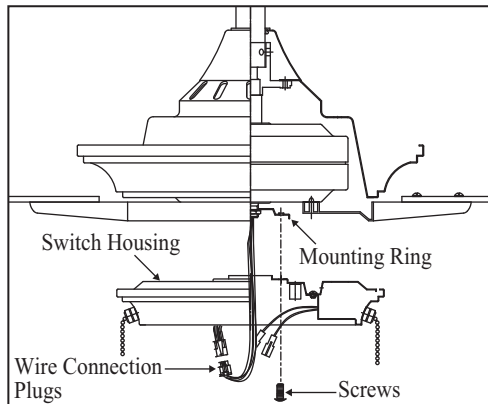

Figure 14
2. Place the key holes on the switch housing over the 2 screws previously loosened from the mounting ring, turn switch housing until it locks in place at the narrow section of the key holes. Secure by tightening the 2 screws previously loosened and the one previously removed. (Fig. 14)